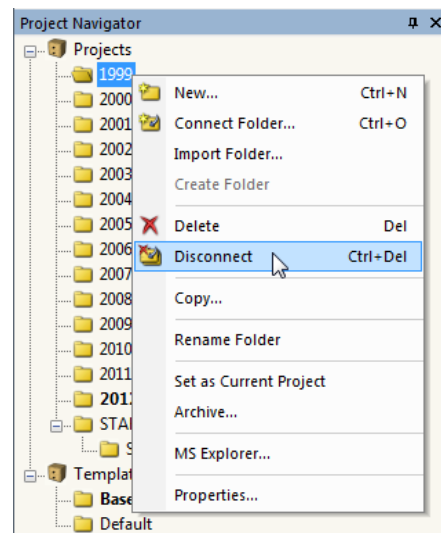
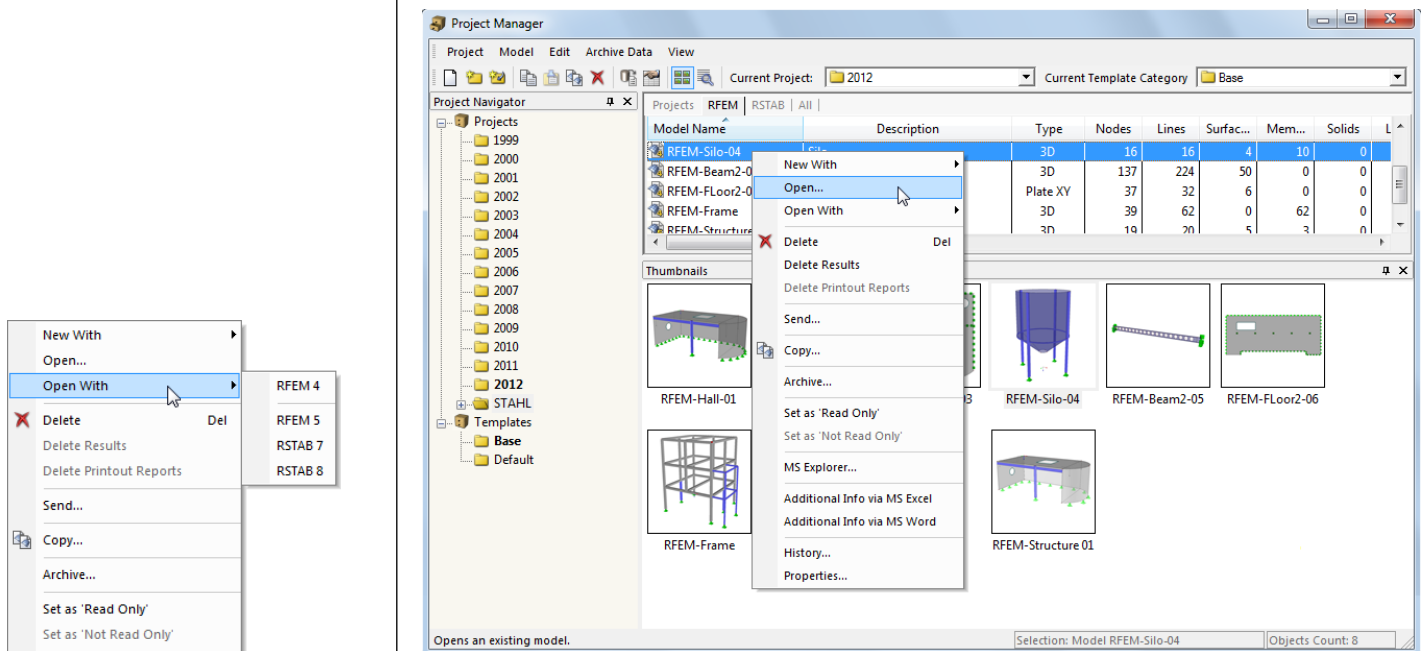

Figure 12.7: Context menu of a project
Figure 12.12: Context menu *Model*
- use the **Copy** entry in the project's context menu in the navigator (see Figure 12.7).
- use the **Properties** entry in the project's context menu in the navigator (see Figure 12.7).
- use the **Properties** entry in the model's context menu in the navigator (see Figure 12.12).
- use the **Delete** entry in the model's context menu (see Figure 12.12).
- use the **History** entry in the model's context menu (see Figure 12.12).
- use the context menu of the project (see Figure 12.7) or model (see Figure 12.12).